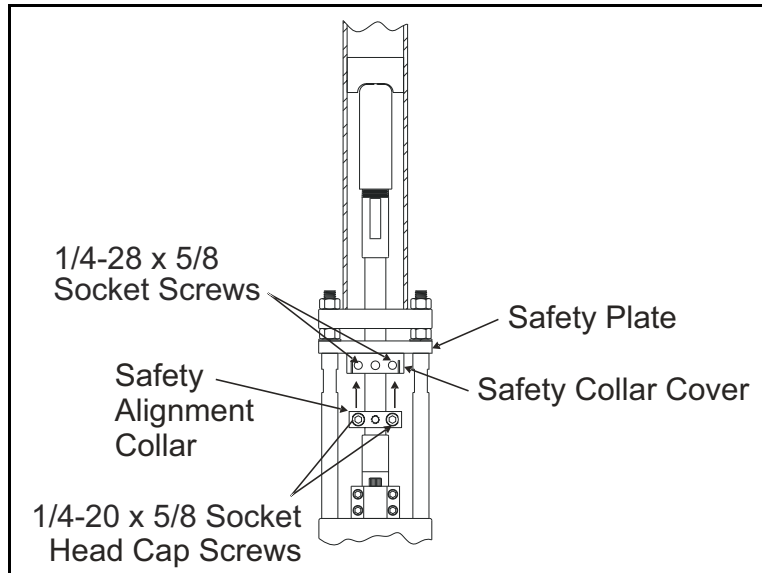

Figure 27: Positioning the Safety Alignment Collar
4. Slide the safety alignment collar into the safety collar cover and position both collars so that they are touching the safety plate (see *Figure 27* below).